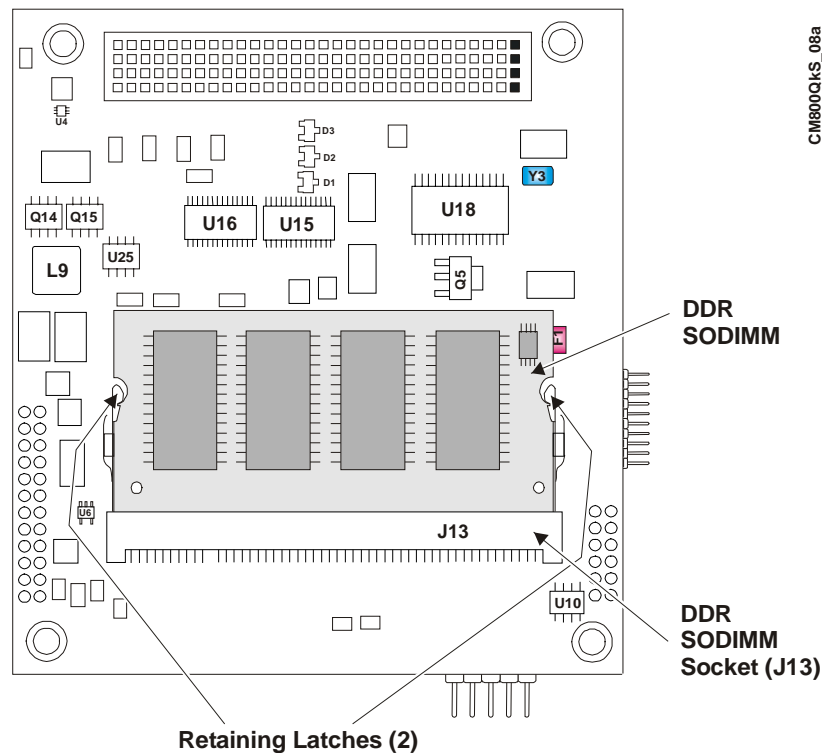

Figure 2-1. CoreModule 800 SODIMM Location (Bottom view)
4. Turn the CoreModule 800 over to access the bottom of the board and lay it on a flat anti-static surface. See Figures 2-1 and 2-2.
5. Locate the SODIMM socket (J22) on the bottom of the CoreModule 800. See Figure 2-1.
6. Open both retaining latches to release the SODIMM from the socket. See Figure 2-1.
4. Turn the CoreModule 800 over to access the bottom of the board and lay it on a flat anti-static surface. See Figures 2-1 and 2-3.